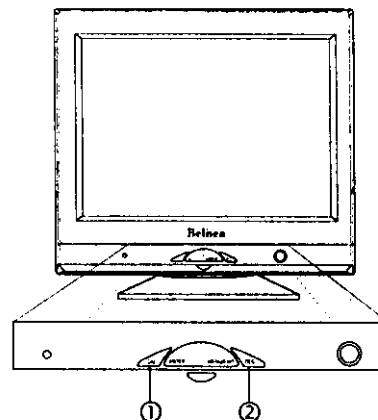

Figure 4. CAL and DEG button
Pressing the **CAL** button (see ① in figure 4) initiates the monitor's automatic calibration process. The monitor will reconfigure the image settings, trying to get the optimal configuration for the current mode.
You can activate your monitor's degauss function (see previous section) directly by pressing the **DEG** button (see ② in figure 4) instead of selecting the corresponding OSD menu function.